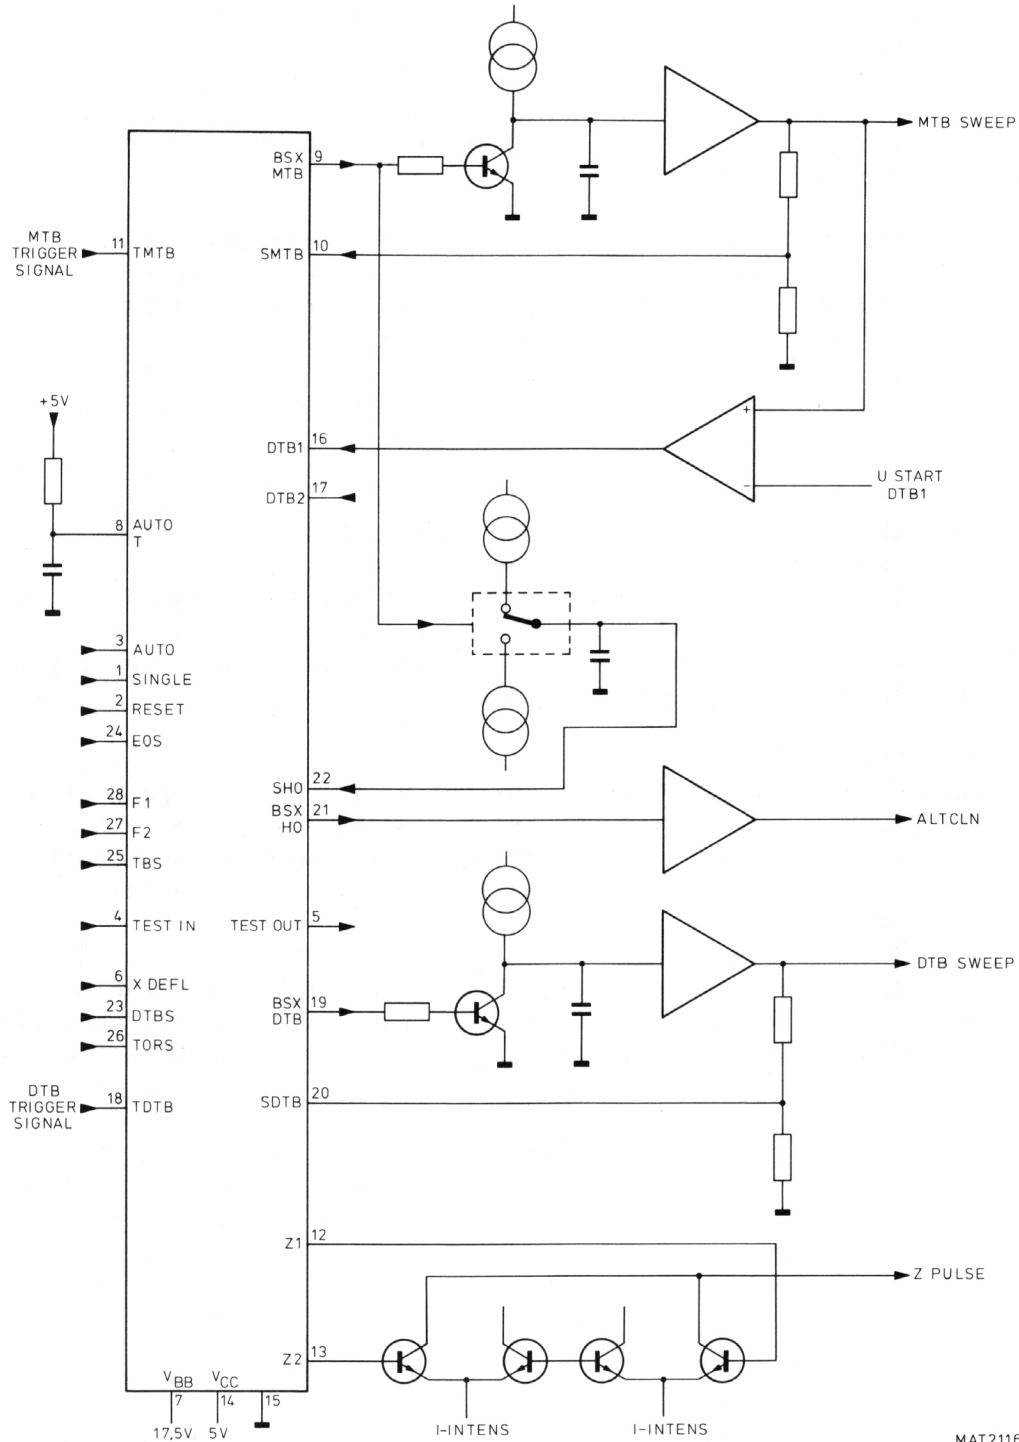

Figure 7.1 D4103 configuration
7.2 TIMING CIRCUIT (see Figure 7.1)